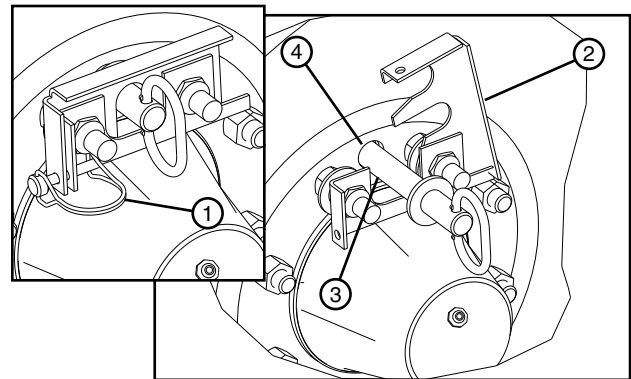

Figure 73-2 1. Lynch Pin 2. Retainer Clip 3. Torque Pin 4. Hub Torque Pin Receiver
4. Leave the torque pin installed in the hub torque pin receiver on the pivot point cart wheel so that this wheel will not rotate (fixed). See figure 73-2.
5. Remove the torque pin from the hub torque pin receiver on the other cart wheel so that this wheel will rotate. See figure 73-2.